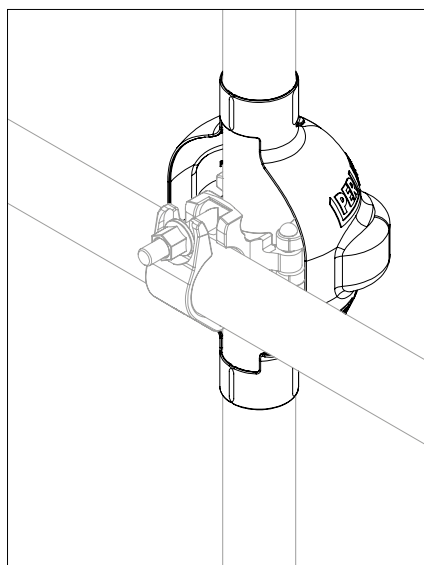

Fig. A7.07
4. In case of crossing tubes, mount 2x Poly Covers UPC-C on each tube, overlapping on one or both tubes. (Fig. A7.07 + A7.07a)